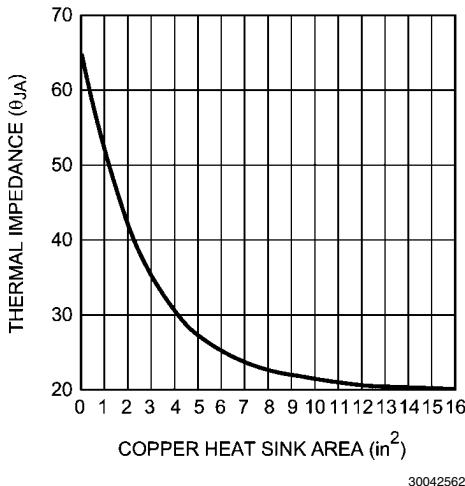

FIGURE 6. Thermal Resistance (typ) for 5 lead TO-263 Package Mounted on 1oz. copper
The TO-263 package has excellent thermal characteristics. To minimize thermal impedance, its exposed die attach paddle should be soldered to a circuit board copper area for good heat dissipation. Figure 6 shows typical thermal resistance from junction to ambient as a function of the copper area. The TO-263's exposed die attach paddle is electrically connected to the V_{EE} power supply pin.
If a heat conductive copper plane has perfect thermal conduction (heat spreading) through the plane's total area, the temperature rise is inversely proportional to the total exposed area. PCB copper planes are, in that sense, an aid to convection. These planes, however, are not thick enough to ensure perfect heat conduction. Therefore, eventually a point of diminishing returns is reached where increasing copper area offers no additional heat conduction to the surrounding air. This is apparent in Figure 6. 2 oz copper boards will have decrease thermal resistance providing a better heat sink compared to 1oz. copper. Beyond 1oz or 2oz copper plane areas, external heatsinks are required. Ultimately, the 1oz copper
5. θ_{JA} as a function of copper area in square inches is shown in Figure 6. Choose a copper area that will guarantee the specified T_J (MAX) for the calculated θ_{JA} . The maximum value of junction to ambient thermal resistance, θ_{JA} , is defined as:
4. Finally, choose the minimum value of copper area from Figure 6 based on the value for θ_{JA} .
Examining the Copper Area vs. θ_{JA} plot (see Figure 6) indicates that a thermal resistance of 21.4°C/W is possible with a $8\text{--}10\text{in}^2$ plane of one layer of 1oz copper. Other solutions include using two layers of 1oz copper or the use of 2oz copper. Higher dissipation may require forced air flow. As a safety margin, an extra 15% heat sinking capability is recommended.